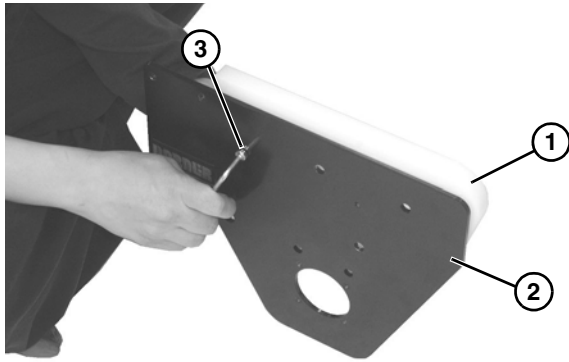

Figure 48
15. Check drive terminal assembly (**Figure 48, item 1**) for wear. If worn, remove two low head cap screws (**Figure 48, item 2**) and low head cap screw (**Figure 48, item 3**) and replace.